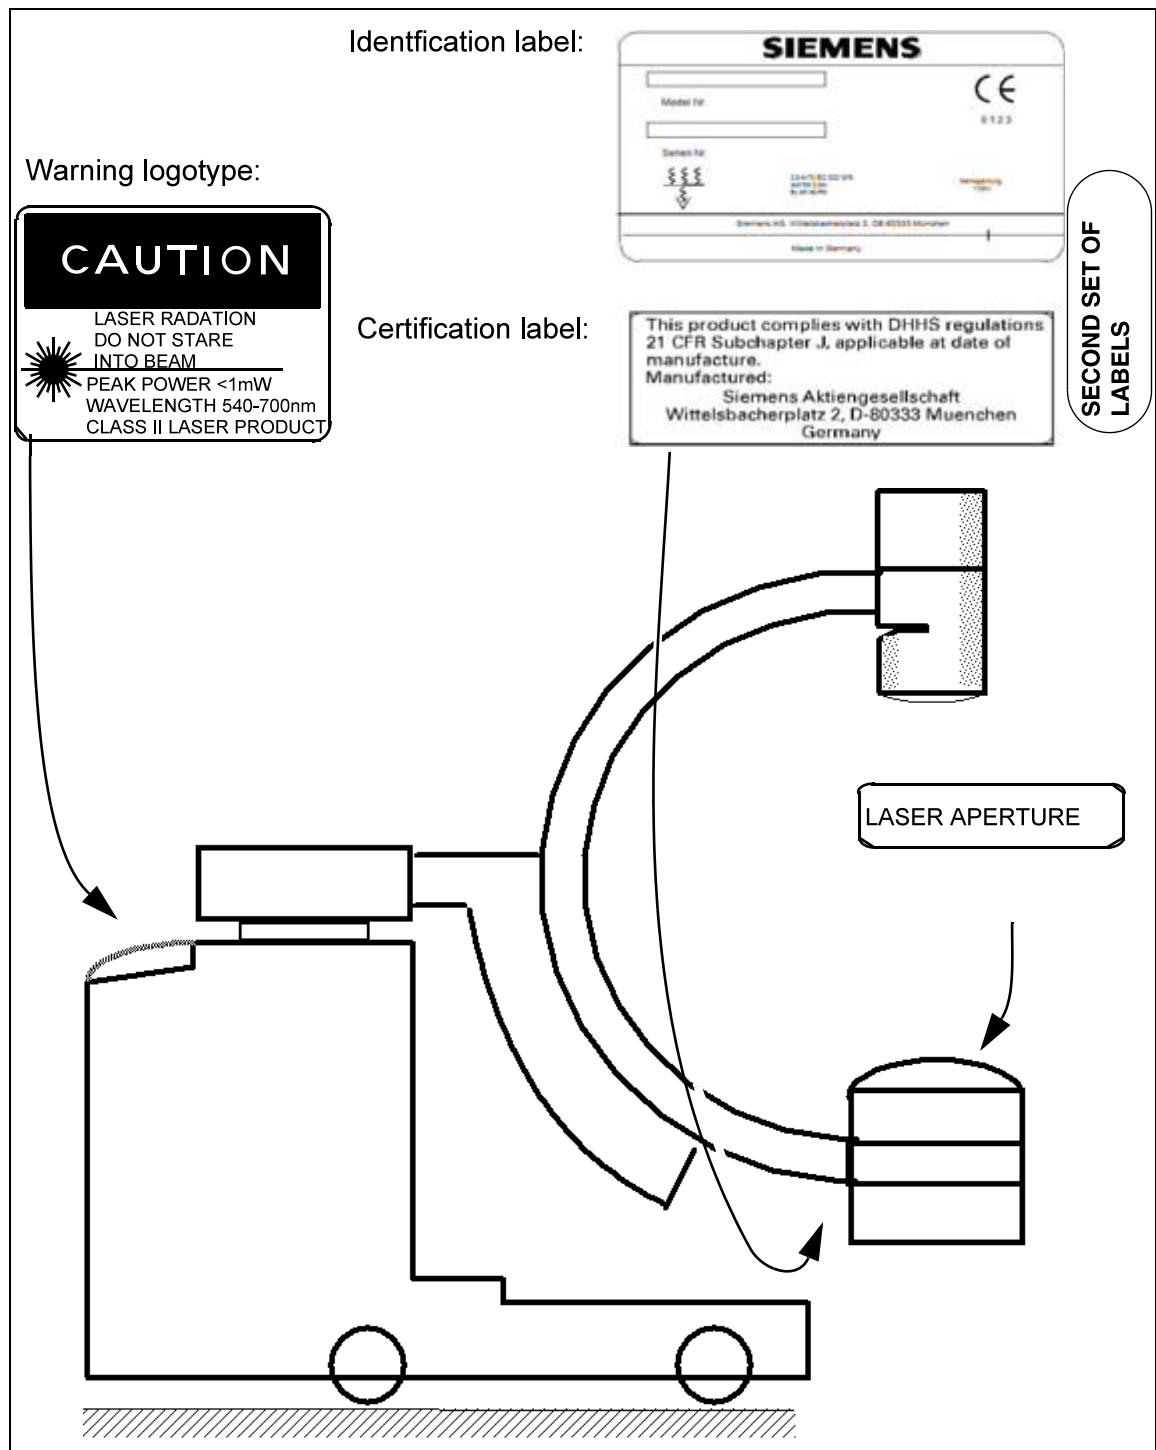

Fig. 7: Checking the identification labels
- Check the identification label, "Laser class 2" warning logotype, DHHS certification label, and the two laser aperture labels according to (Fig. 7 / p. 13) and (Fig. 7 / p. 13).